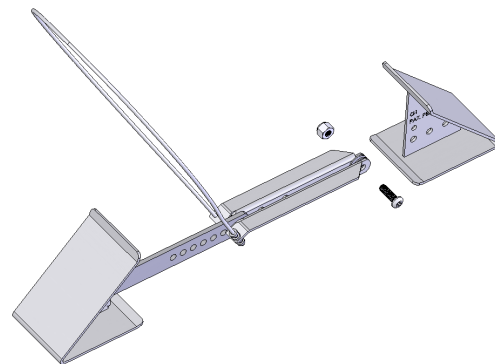

Figure 1
1. Remove the Fastway® ONESTEP™ chock and other parts from the packaging. Remove the bolt and nut holding the double arms to the wedge using the hex key provided for adjustments, and a 9/16" socket. See Figure 1.